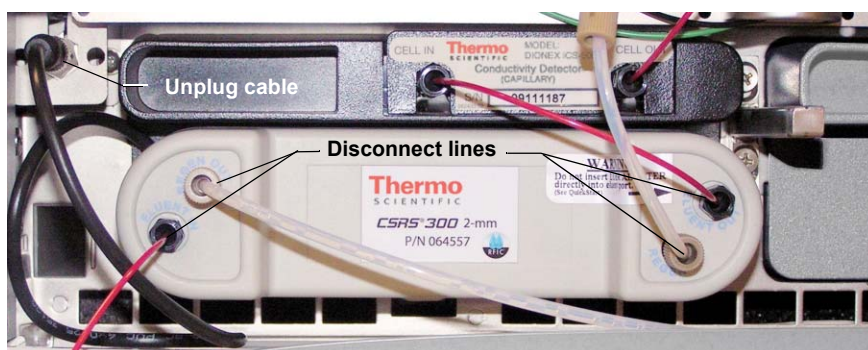

Figure 9-51. Disconnecting the Suppressor Liquid Lines and Cable
4. Disconnect the four liquid lines from the suppressor (see Figure 9-51).
7. Orient the new suppressor with the **ELUENT IN** and **REGEN OUT** ports on the bottom (see Figure 9-51). Press the suppressor against the back of the detector and then slide it to the right to secure it onto the mounting tabs. Pull out slightly on the center of the suppressor to verify that it is securely fastened.